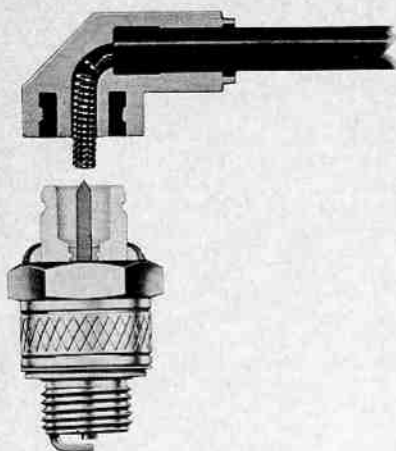

Fig. CS29 — Cut-away view of special "shorty" type spark plug and terminal available for chain saw engines. Refer to Fig. CS29A for a second type special plug.
Fig. CS29A—View showing special "bantam" type spark plug as compared with regular type spark plug of same heat range. Refer also to Fig. CS29 for view of special "shorty" type plug.
**SPECIAL TYPES.** Sometimes, engine design features or operating conditions call for special plug types designed for a particular purpose. Of special interest when dealing with chain saw engines are the "shorty" type plug shown in Fig. CS29, and the "bantam" type plug shown in Fig. CS29A.